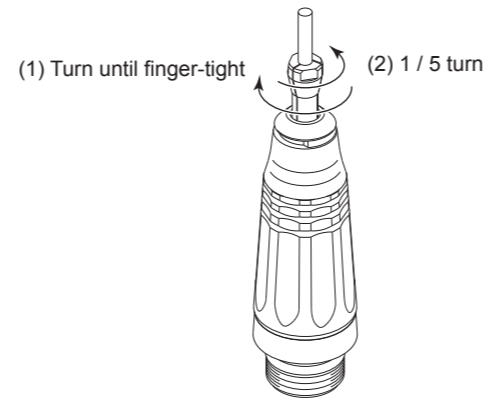

Fig. 7
③ Attachment and Adjustment of the collet
- (1) Turn the cutting tool / the dummy bur clockwise to stop with the ring opened.
- (2) Return it about 1 / 5 - 1 / 4 to remove the cutting tool / the dummy bur smoothly (Fig. 7).